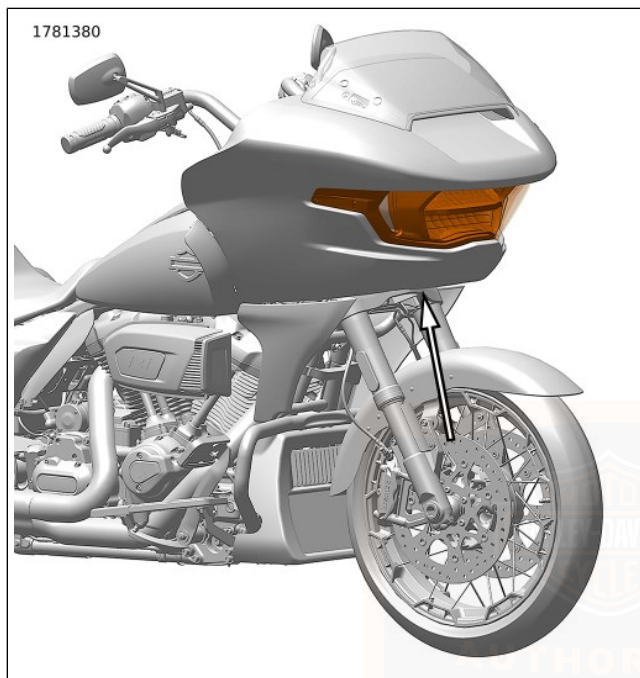
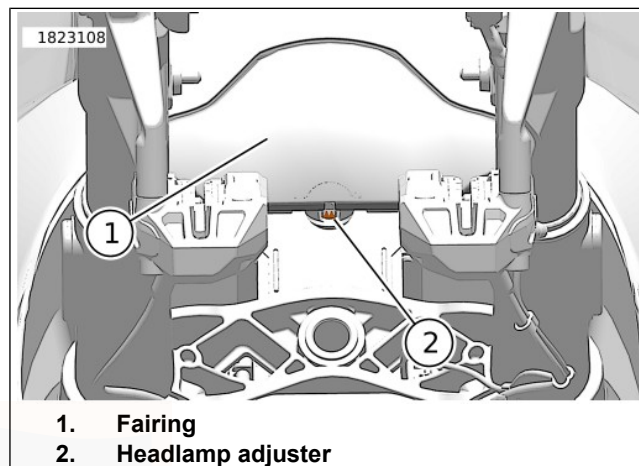

Figure 117. Headlamp Adjuster
Figure 118. Headlamp Adjuster (view from under fairing)
1. See Figure 117 and Figure 118. Insert an appropriately sized Philips #2 screwdriver vertically, behind the chin close-out panel.